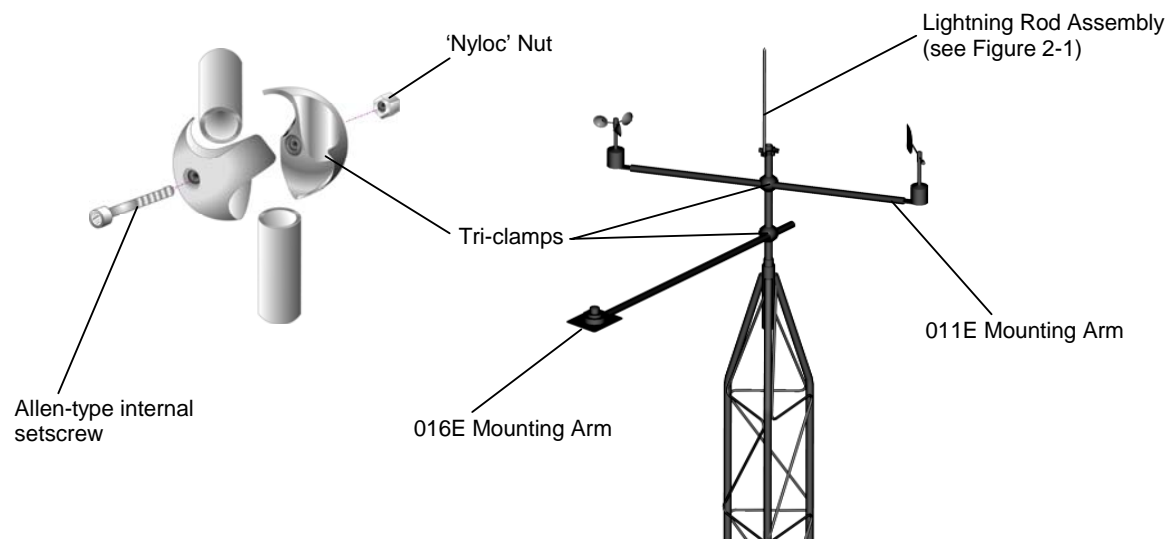

Figure 2-6 Both Mounting Arms and Sensors in Final Position on the Tower Mast Assembly
The standard mounting arm supplied with the pyranometer is the 016E, and the pyranometer is normally mounted on the tower top mast assembly (as shown in Figure 2-6, below) as this will effectively eliminate shading problems from the tower structure. However, cleaning and other maintenance requirements will necessitate lowering the tower to the ground, and so, for easier maintenance, you may wish to mount the pyranometer lower down the structure so that it is accessible either directly from the ground or by using a step-ladder. In this case, care should be taken that the pyranometer is mounted so that there is minimal shading from the tower structure at all times. In the Northern hemisphere, the pyranometer should be facing due South to help achieve this.
4. Attach the mounting arm and pyranometer to the top mast assembly with the universal mounting bracket, as shown in Figure 2-6. Orient the arm to face approximately south relative to the tower to minimise the possibility of any part of the structure or other instruments casting a shadow onto the pyranometer.
The 011E cross-arm sensor mount is supplied with a special tri-clamp connector and is attached to the tower top mast assembly, above the pyranometer (if fitted). See Figure 2-6, below.